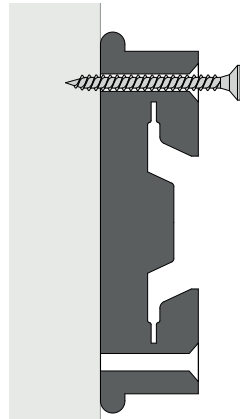

Figure 1
- ❑ Fix the Isoblocks with a single screw on one end only (figure 1).